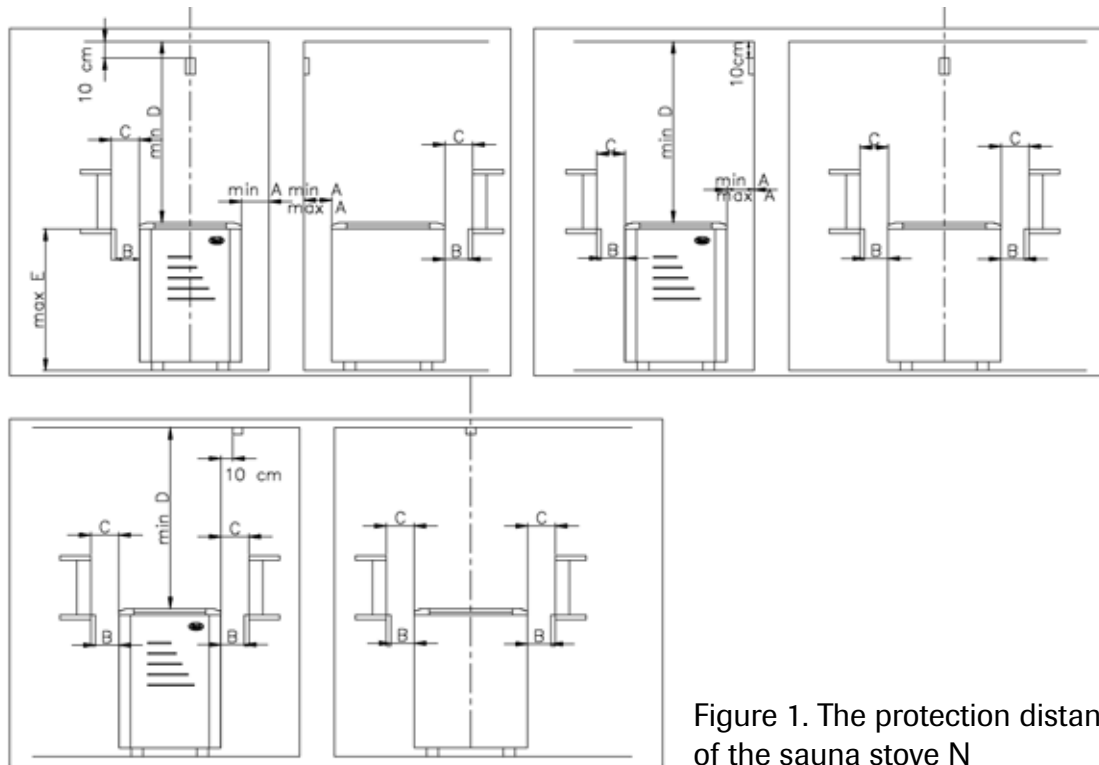

Figure 1. The protection distances of the sauna stove N
- The stove can also be installed in a wall recess where the protection distances according to Figure 1 must be considered.
**) See Figure 1